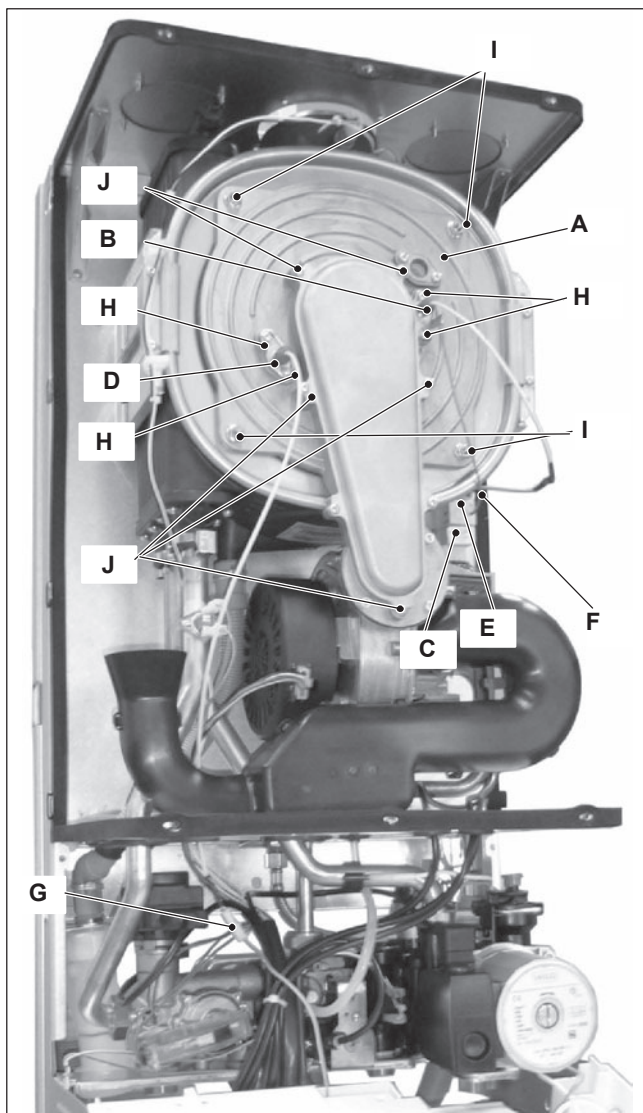

Figure 18.1
- 2 Disconnect the ignition electrodes connector E and the earth wire F from the spark generator C (Figure 18.1) and disconnect the detection electrode connector G.
- 3 Unscrew the screws H and remove the ignition electrodes B and the detection electrode D (Figure 18.1).
- 3 Unscrew the screws I (Figure 18.1) and remove the cover of the combustion chamber.
- 4 Unscrew the screws J (Figure 18.1) and remove the Air-gas duct lid.